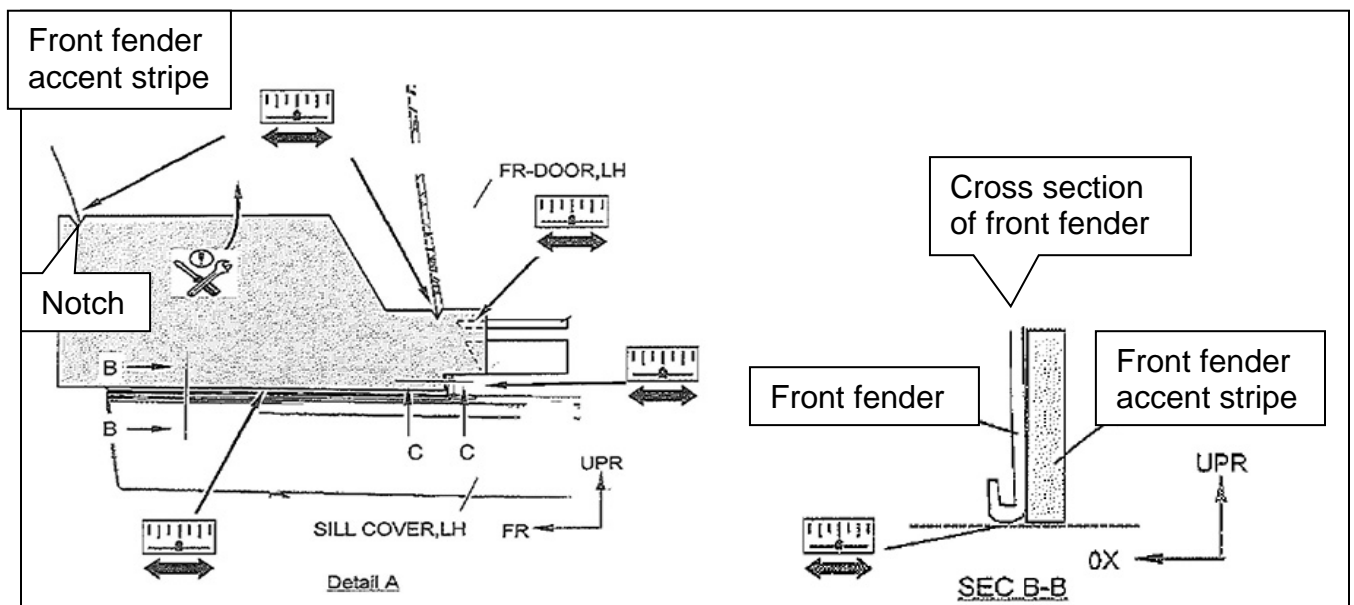

Figure 27
2. Review Figure 27 for the location that the front fender accent stripe will be applied.
6. Set the front fender accent stripe on the front fender and align as shown in Figures 27.
**NOTE:** Use the notches in the accent stripe, shown in Figure 27, to align with the front and rear edges of the front fender.